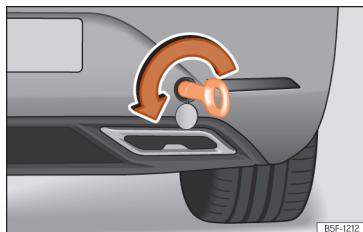

Fig. 220 Right side of the rear bumper: towline anchorage screwed in.
- Screw the towing eye in the housing by turning it to the maximum **anticlockwise** >>> **Fig. 220** , >>> ①. Use a suitable object that can completely and securely tighten the towing eye in its housing.
① NOTICE